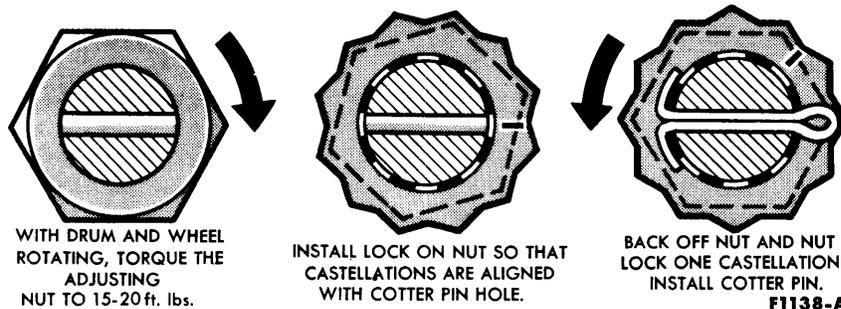

FIG. 5—Front Wheel Bearing Adjustment
4. While rotating the wheel, hub, and drum assembly, torque the adjusting nut to 15-20 ft-lbs to seat the bearings (Fig. 5).